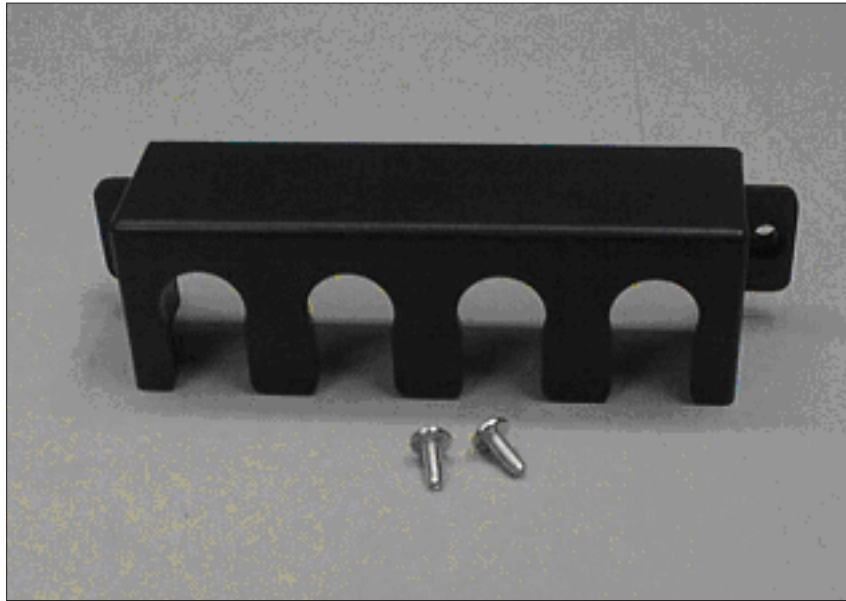

Figure 48. The 2145 UPS-1U cable retention bracket hardware
2. Remove the bracket and the two screws from the packaging. See Figure 48 on page 86